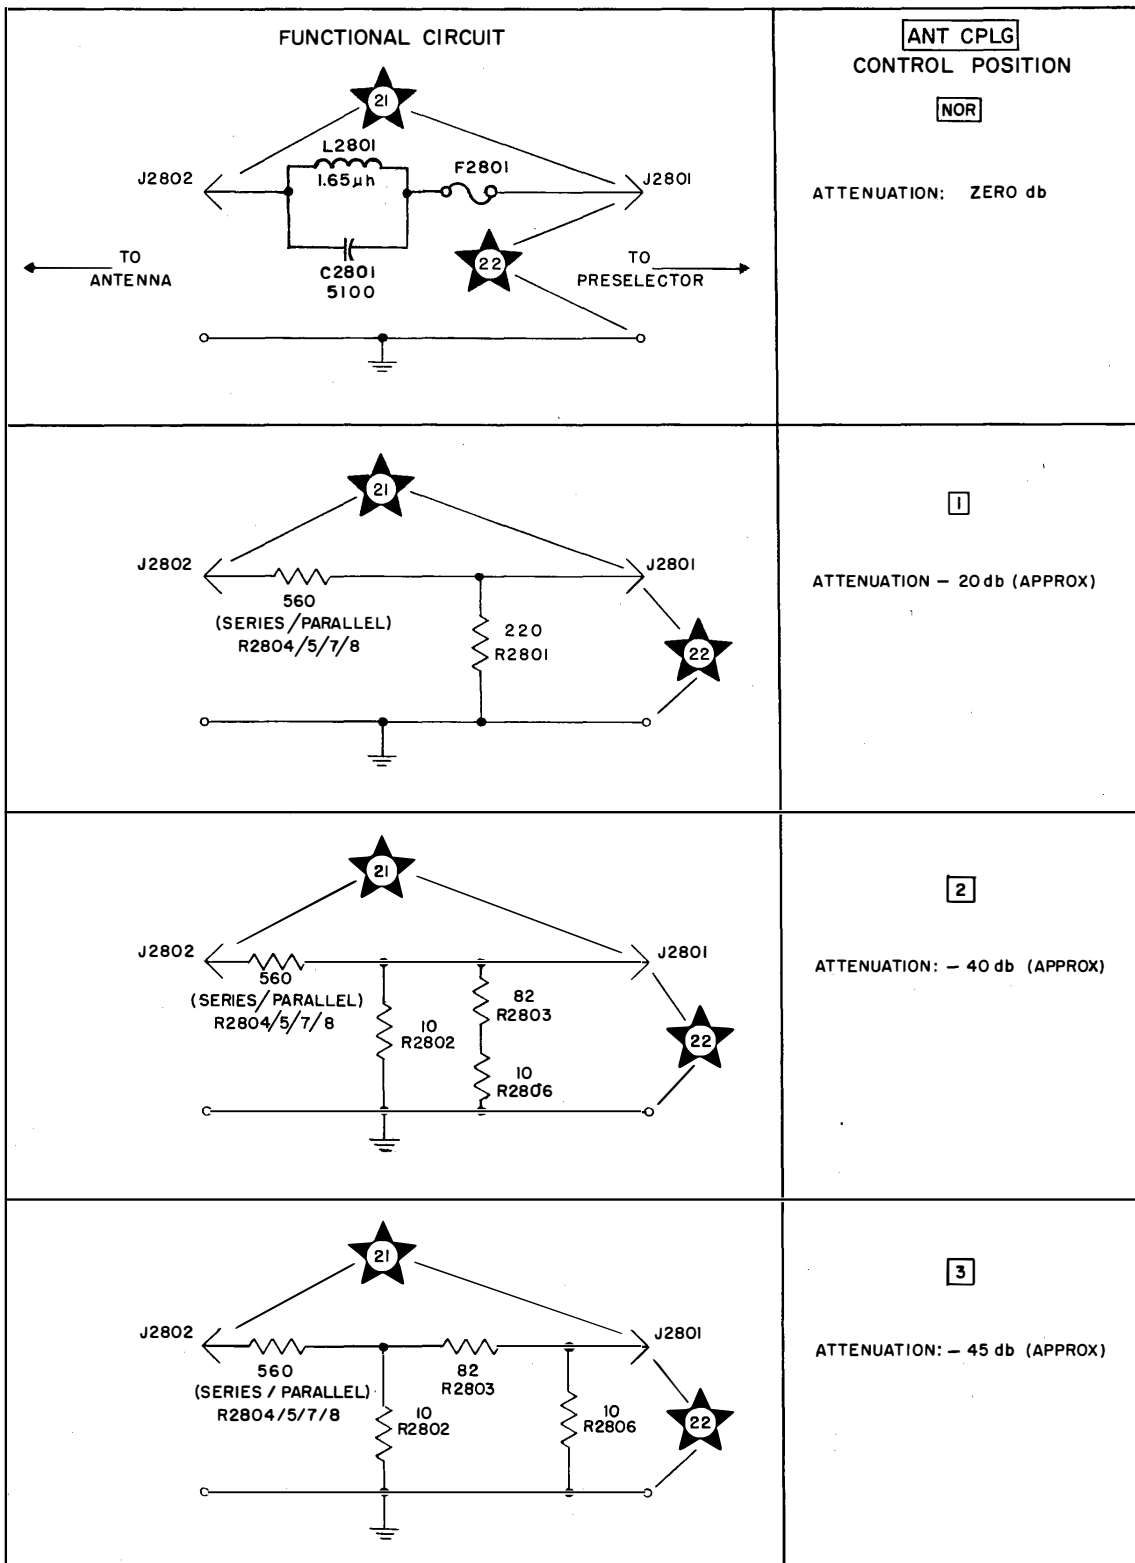

Figure 5-8. Antenna Coupler, Functional Schematic Diagram
a. FUNCTION.— The antenna coupler provides three steps of signal attenuation at the input of the receiver. It also contains a protective fuse (F2801) in series with the antenna circuit. Faulty coupler operation will reduce the strength of the signal, with the coupler in NOR. position a blown fuse will cut off the signal entirely, preventing reception. Figure 5-8 is a functional
e. ANTENNA COUPLER TROUBLE-SHOOTING.— Figure 5-8 shows separate functioning circuits for each position of the ANT. CPLG. switch. Disconnect